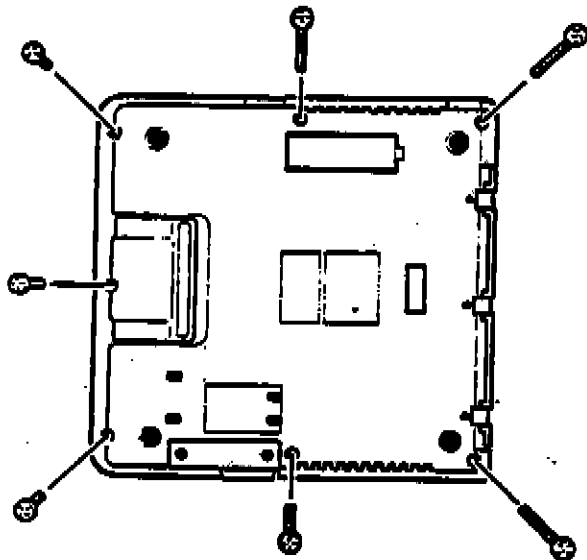

Figure 3-4. Bottom Screws
Refer to Figure 3-4 and 3-5 for the following steps.
2. Place the computer upside down on a clean, soft surface. Remove the seven screws, shown in Figure 3-4, and set the screws aside.